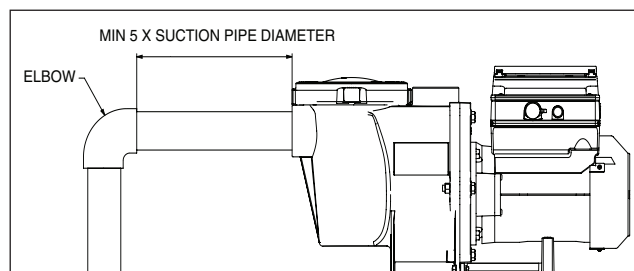

Figure 2: Recommended Piping
4. For most installations Pentair recommends installing a valve on both the pump suction and return lines so that the pump can be isolated during routine maintenance. We also recommend a valve, elbow or tee installed in the suction line should be no closer to the front of the pump than five (5) times the suction line pipe diameter. See **Figure 2**.